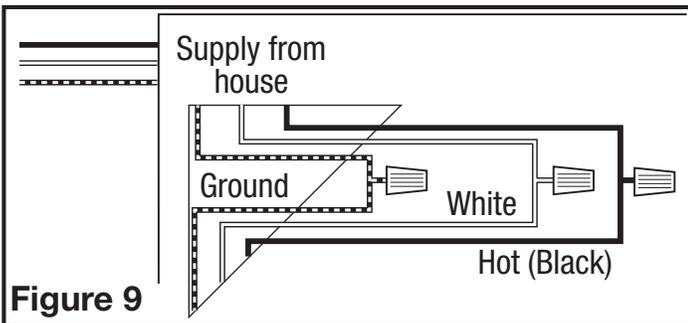

**Figure 8**
- 1b. **Internal Wire Compartment:** If the motor is already installed in the housing, using a 7/16" socket, remove the two hex nuts holding the blower assembly in place. Lift up on the assembly and slide it out of the tabs on the housing (**Figure 7**). Remove the wire compartment cover screw and place the cover in a secure place (**Figure 8**).